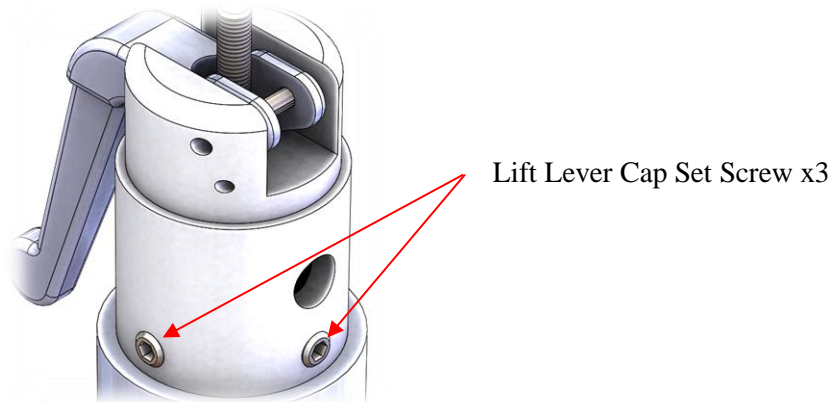

Figure 25: Lift Lever Cap Set Screws
4. Loosen the three lift lever cap set screws. See Figure 25. These must be unscrewed enough so that they no longer engage the lift lever lock nut.